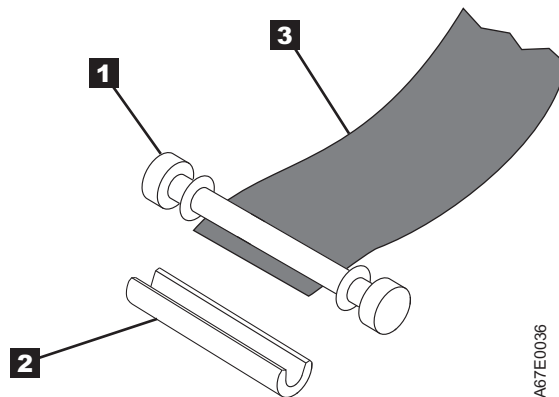

Figure 4-14. Removing the C-clip from the leader pin. Use your fingers to push the C-clip from the leader pin.
5. On the leader pin ( **1** in Figure 4-14), locate the open side of the C-clip **2** . The C-clip is a small black part that secures the tape **3** to the pin.